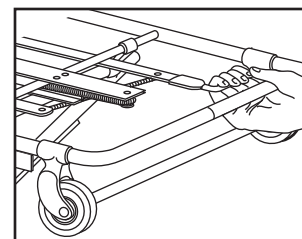

Figure 18 - Raising the Cot: Use Only the Head-End Control Handle
2. Both Operators: While the head-end operator squeezes the front-leg control handle (Figure 18) both operators raise the cot to the desired height in a coordinated movement.